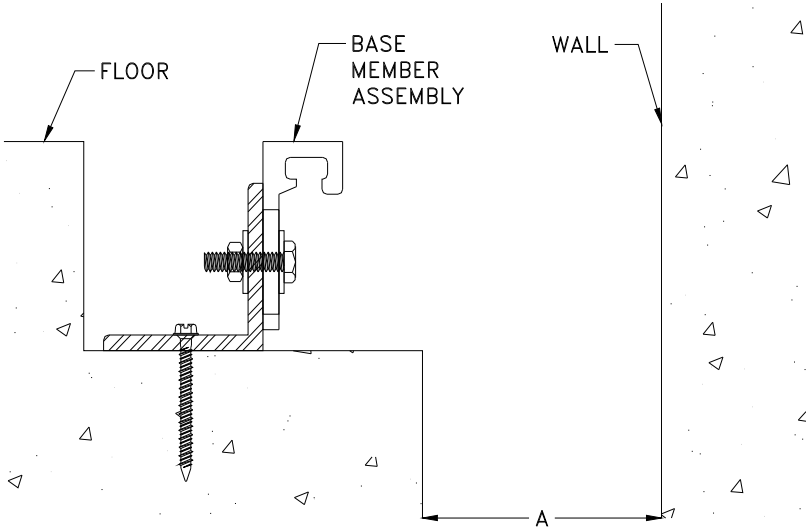

Figure 10
STEP 17. Using the base member assembly as a template, mark the locations for the anchors on the concrete (see Figure 10).